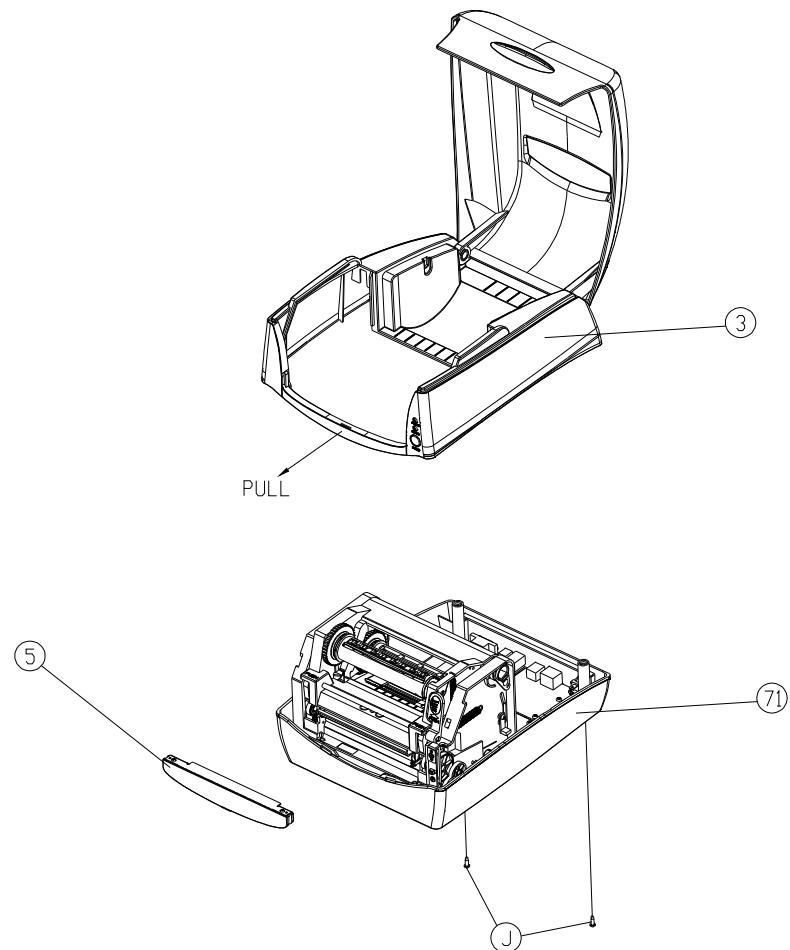

Figure 10.3.1
2. Remove the 2 screws (J) on the printer bottom (71).
3. Pull out the front side of the “Middle Cover” (3) then remove it from “Bottom” (71) as shown in Fig. 10.3.1.
4. Remove the “Middle Cover” (3).